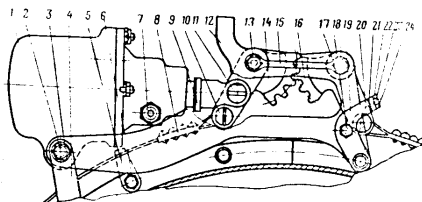

Fig. 23. Attachment of Compressor Air Blow-Off Band Control Mechanism
- Replace the compressor air blow-off band control mechanism (Fig.23) proceeding as follows: